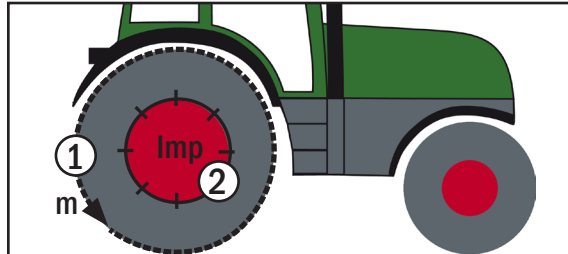

Fig. 86: Determine wheel circumference and pulses per wheel revolution
- Determine the outermost circumference of the wheel on which the external sensor is mounted in meters (see Fig. 86 – 1). This can be realized, for example, by marking on the wheel and measuring the distance traveled during a complete wheel rotation on a firm, level surface.
- Determine the pulses (Imp) which the sensor measures per wheel revolution (Fig. 86 – 2).
Alternatively you can also activate the check box below “Ext. Sensor” (see Fig. 86 – 1) and specify a value between 5400 and 66900 Imp/100m.